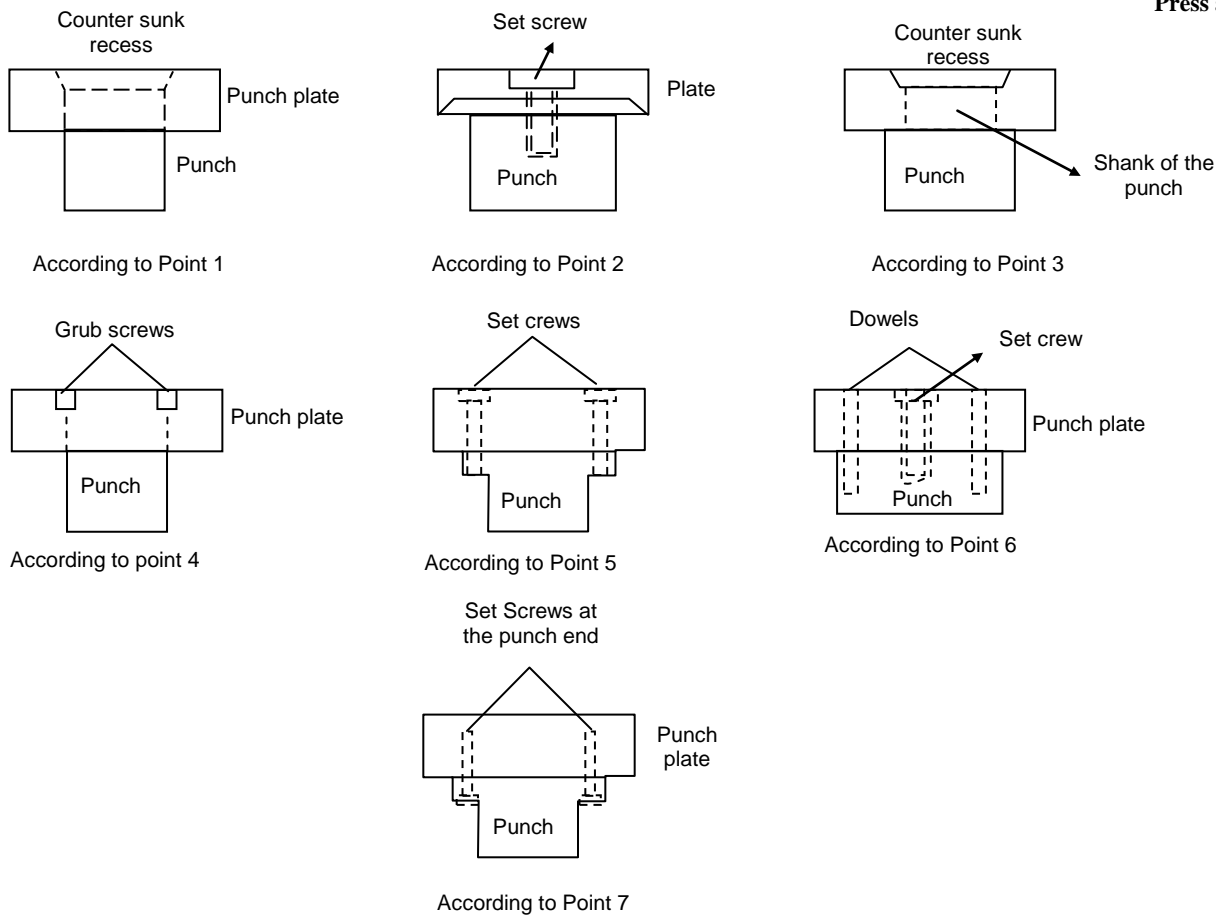

Figure 3.5 : Different Ways of Holding a Punch
- (a) Punch can be fastened by forcing it to punch plate, top end of the punch is flattened to fit in the countersunk recess as shown in Figure 3.5.
- (b) Punch can be clamped to the punch plate by a set screw. The correct position of the punch is located by cutting a slot into the punch plate as shown in Figure 3.5.
- (c) Shank of the punch is forced into the punch plate top end of the punch is made flat to fit into the countersunk recess as shown in Figure 3.5.
- (d) Punch can be tightly secured to the punch plate with the help of grubs screws as shown in Figure 3.5.
- (e) Set screws are used to fastened the punch to the punch plate as shown in Figure 3.5.
- (f) Fastening of punch with the help of a set screw and it is located during fastening with the help of two dowel pins shown in Figure 3.5.
- (g) Flange end of the punch is secured to the punch plate by set screws from the punch end as shown in Figure 3.5.